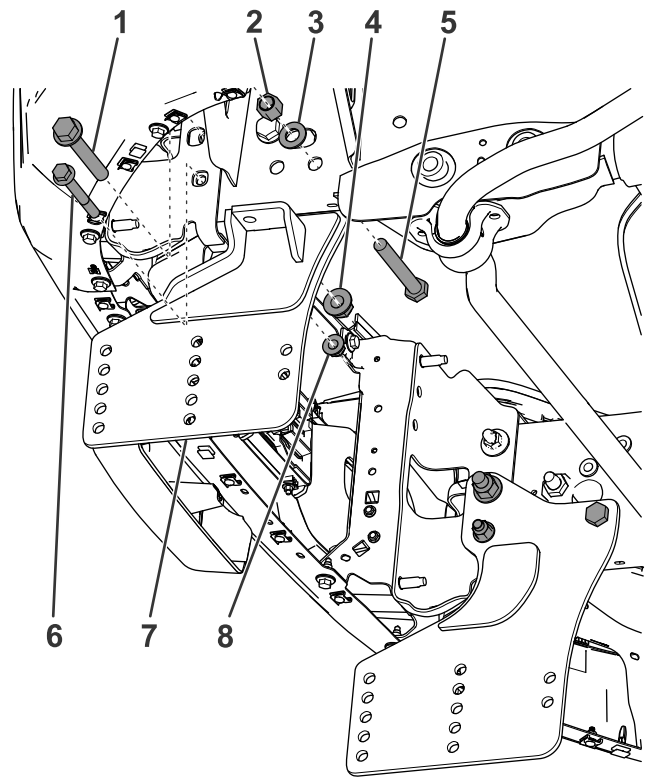

Figure 3
4. Loosely secure the sideplates to the vehicle frame using the fasteners shown in Figure 3.